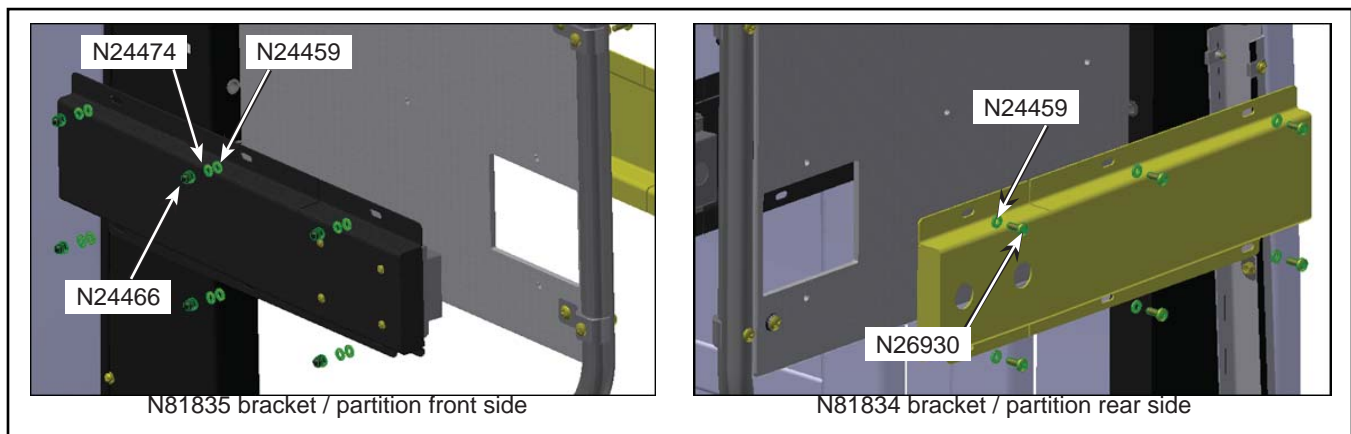

Figure 5 - Bracket Installation on Partition
- 1.9. Install the N81835 bracket with the sensor on the front side of the partition and install the N81834 bracket on the rear side of the partition using N26930 screws (6x), N24459 flat washers (12x), N24474 lock washers (6x) and N24466 domed cap nuts (6x). See Figure 5.